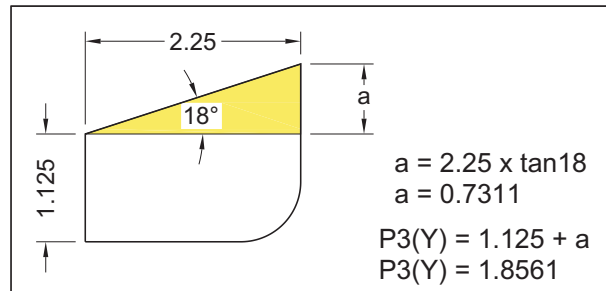

Figure 30-4
*Figure 30-4* shows the trigonometry method used and all five points can be summed up in a small table or chart.